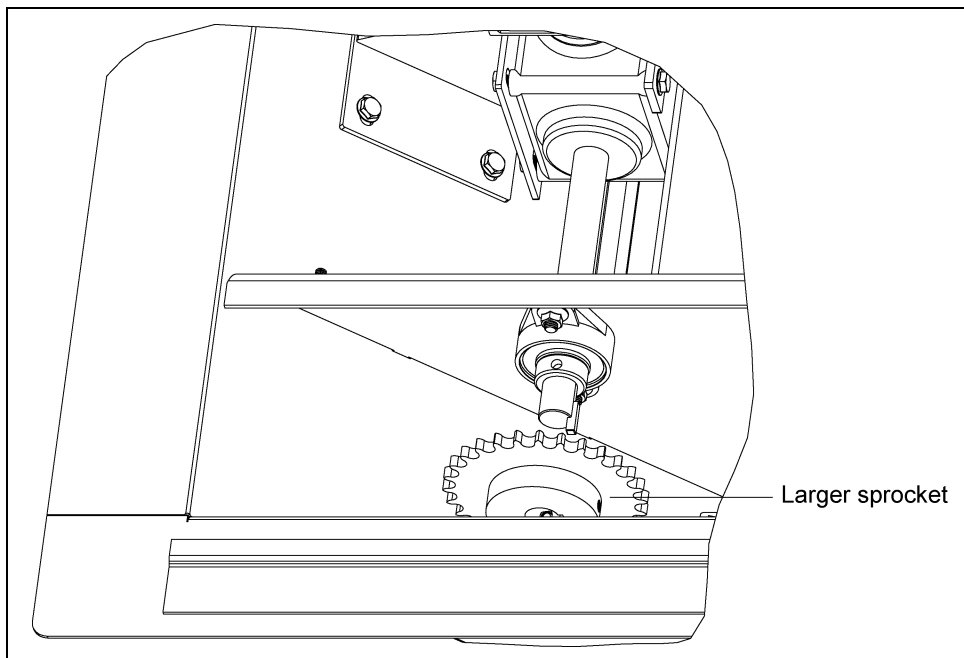

Figure 3D
12. Install the new larger sprocket onto the input shaft of the gearbox as shown in Figure 3D.